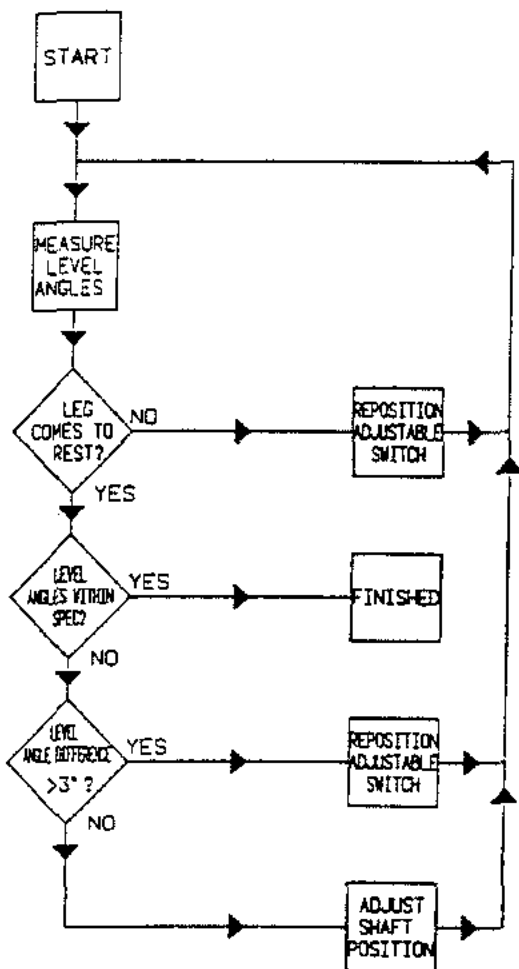
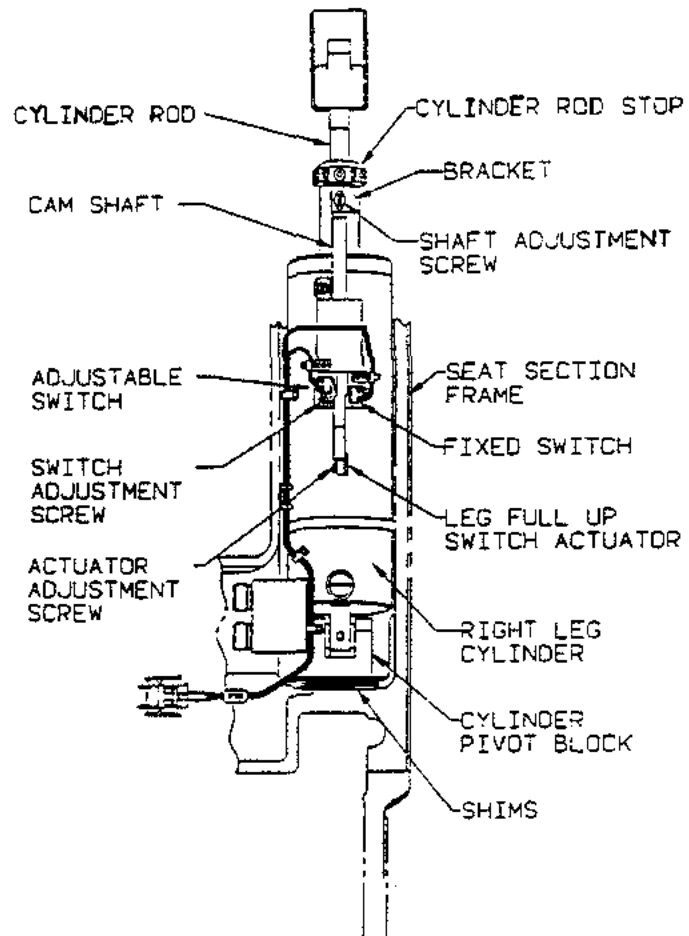

Figure 12-3. Leg Level Position Adjustment Procedure for Return-to-Level
Figure 12-4. Leg Return-to-Level and Leg Full-Up Switch and Actuator Hardware
- See Figure 12-3 and Figure 12-4 for information and a picture of the environment and hardware dealt with in this procedure.
2. **Leg Return-to-Level Position Adjustment** --- Refer to Figure 12-3 for a flow chart for this adjustment procedure.